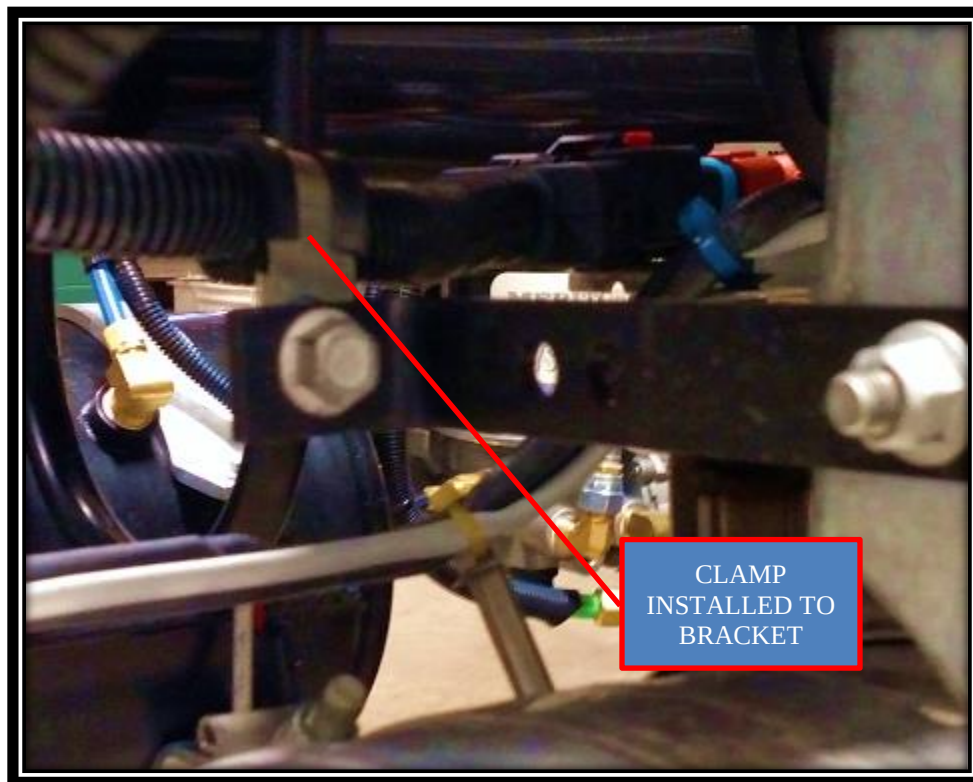

FIG 4.1
3. Install clamp around exhaust harness approximately 6" from connection to exhaust controls. Attach clamp to short side of flange with supplied hardware and torque 27-34 lbf·ft. Refer to FIG. 4.1.